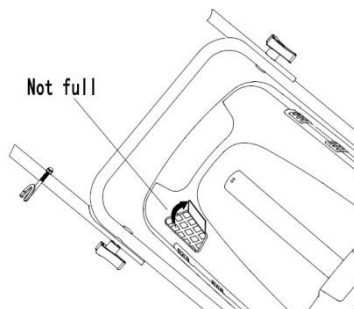

Fig. 14B
- The level indicator inflates if the catcher is not full during the moving. (Fig. 14B)